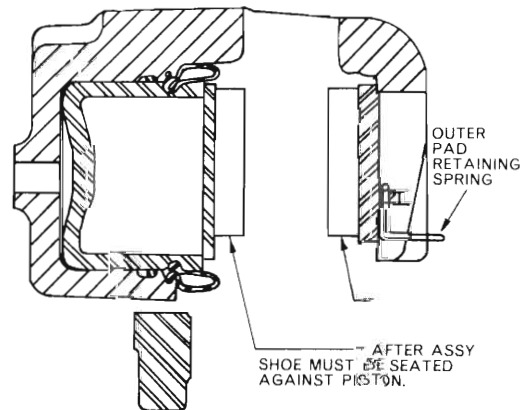

Fig. 9 - Caliper assembly diagram
- (5) Prise off outer pad retaining clip and remove pad from housing. Discard clip (Refer Fig. 9).
Position the new outer pad to the housing and retain with *new* spring clip which locates under the raised projection (lance) in the pad backplate and over the legs of the housing. (Refer Fig. 9).